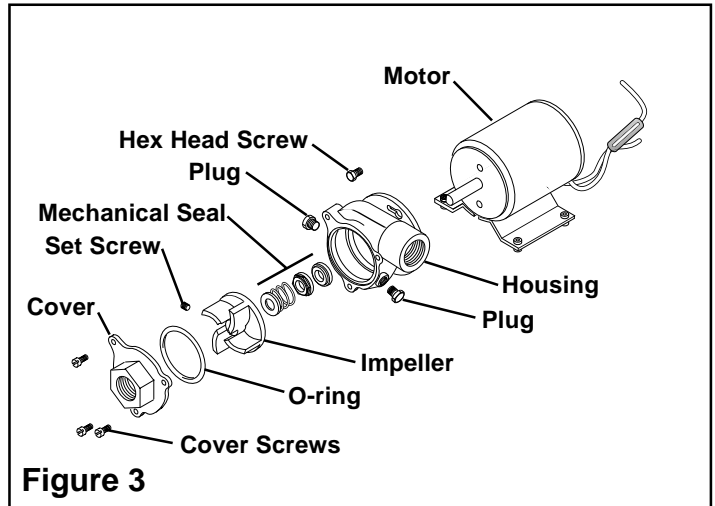

Figure 3
See Figure 3
1. Press the new Ceramic Seal into the Housing with the ceramic portion of the Ceramic Seal facing away from the Motor (See Figures 3 and 4).
2. Using the two Hex Head Screws, secure the Housing to the Motor (See Figure 3).